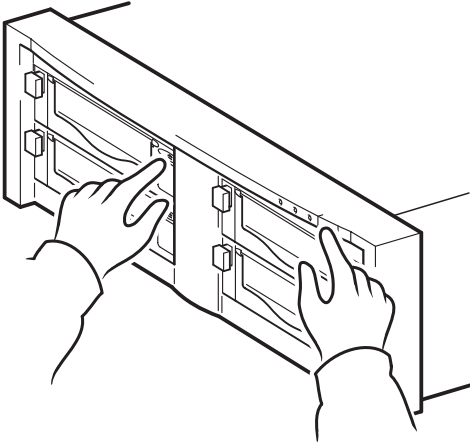

Figure 10a: using HP OBDR, step 1
- 1 Lift the cartridge door and insert the latest bootable cartridge that you have assigned to HP OBDR in the tape drive (see Figure 10a). The cartridge must be written by a backup application that writes data to tape in CD-ROM format.